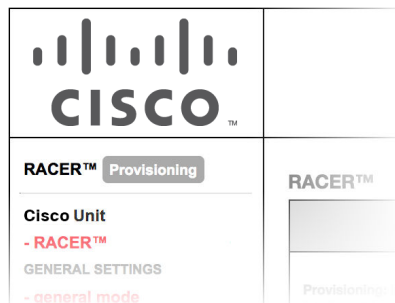

Figure 13. FM Racer status icon (Provisioning Mode)
- Check that the unit is in Provisioning Mode by looking at the colored icon to the right of the **RACER™** tag in the upper left-hand corner of the screen (Figure 13 \(page 46\)).